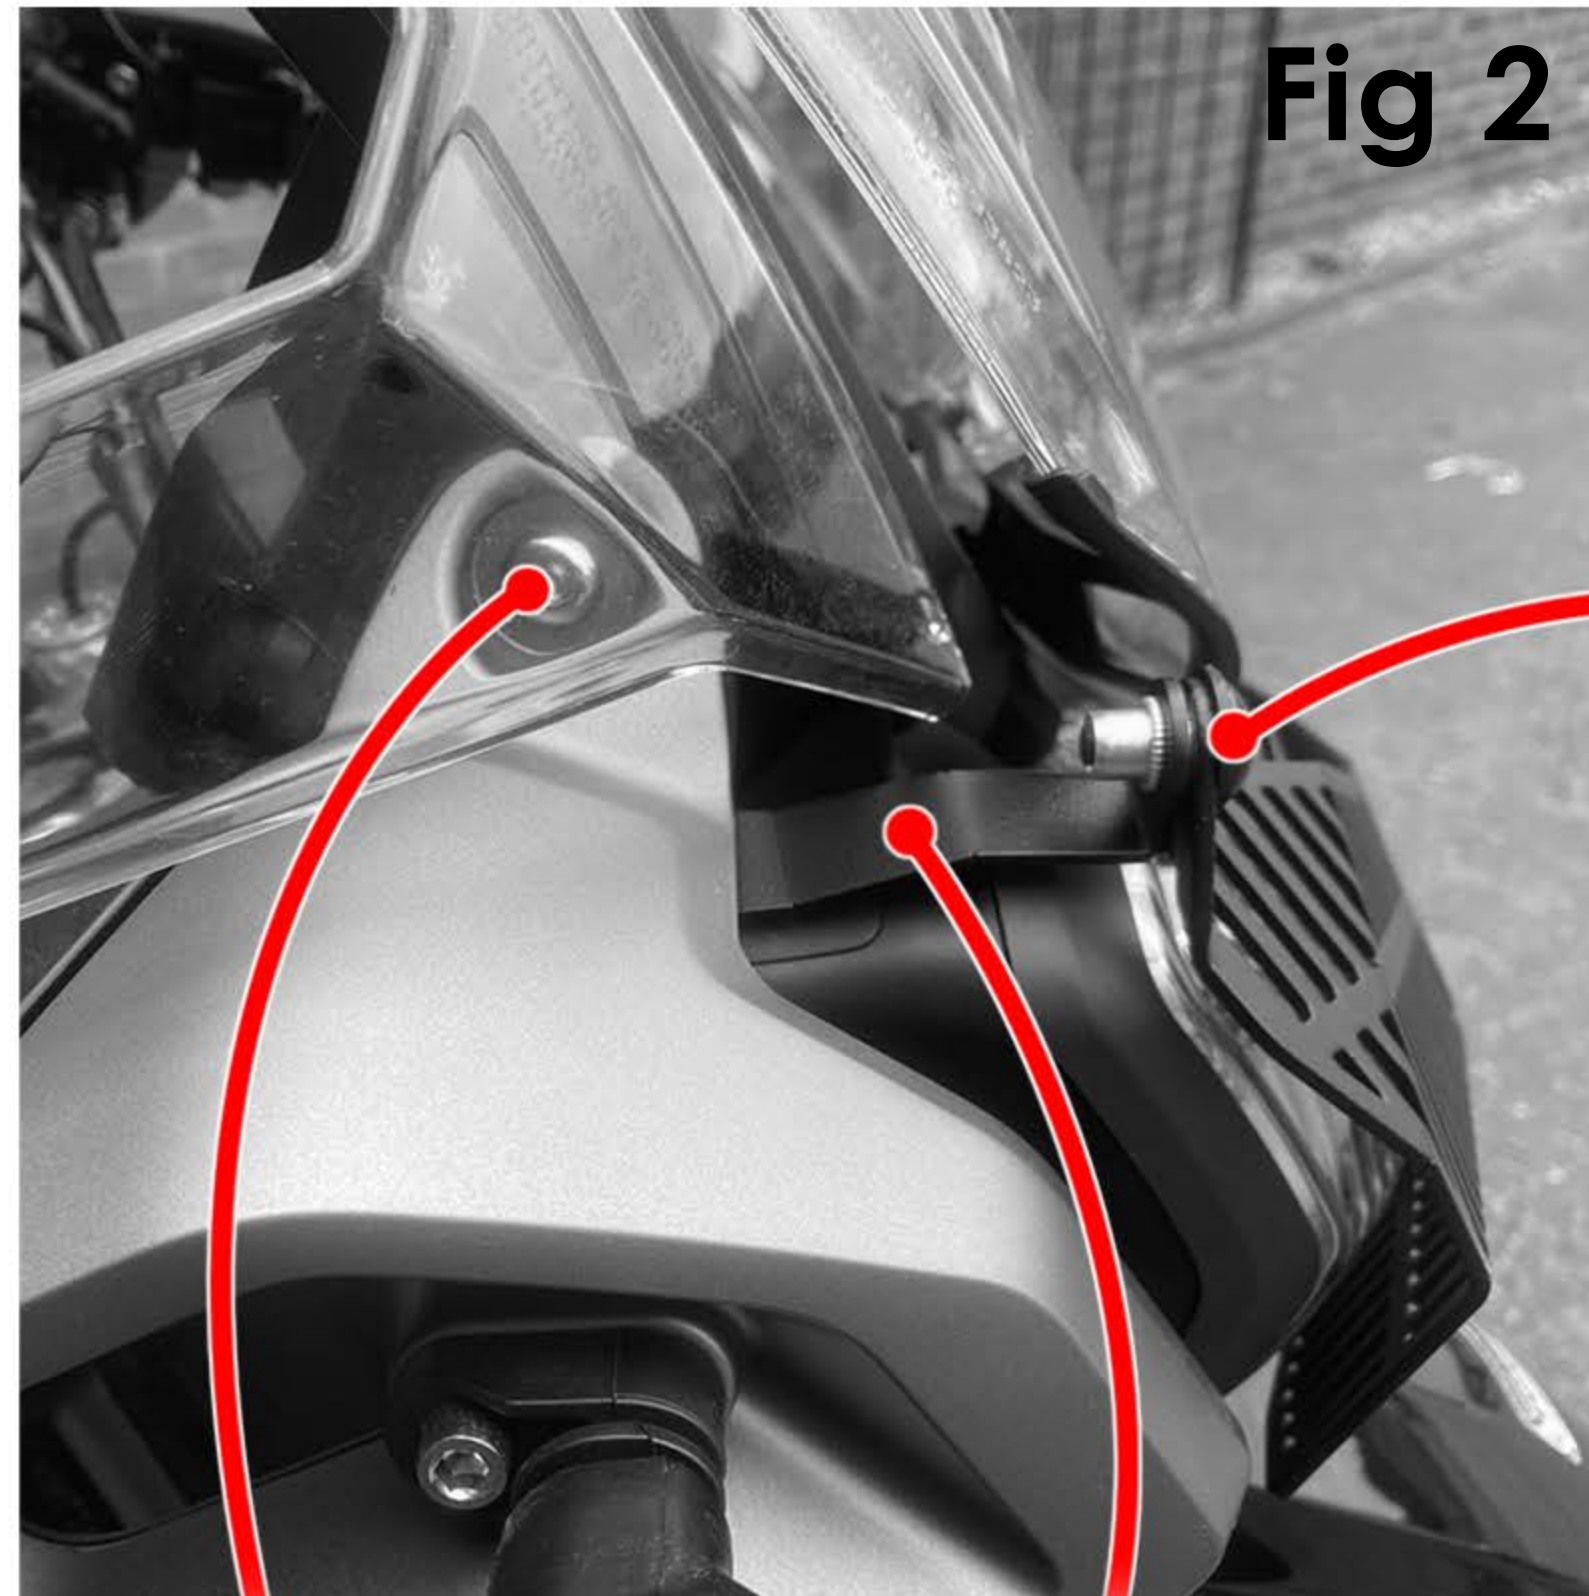

Fig 2
- Remove the 2 OEM bolts shown in **Fig 2** (left and right side of bike).
- Attach the pair of brackets as shown in **Fig 2** using the 2 OEM bolts removed in the previous step. Attach the headlight guard to the brackets using the remaining fittings. The bottom of the headlight guard should rest on the foam strips on top of the beak.